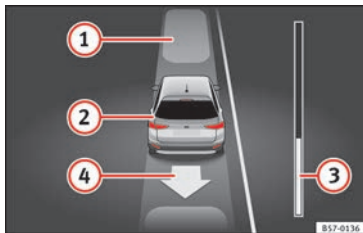

Fig. 205 On the instrument panel display: exiting a parallel parking space.
Key to the **Fig. 205**:
The progress bar » Fig. 205 ③ indicates the distance to cover » page 236.